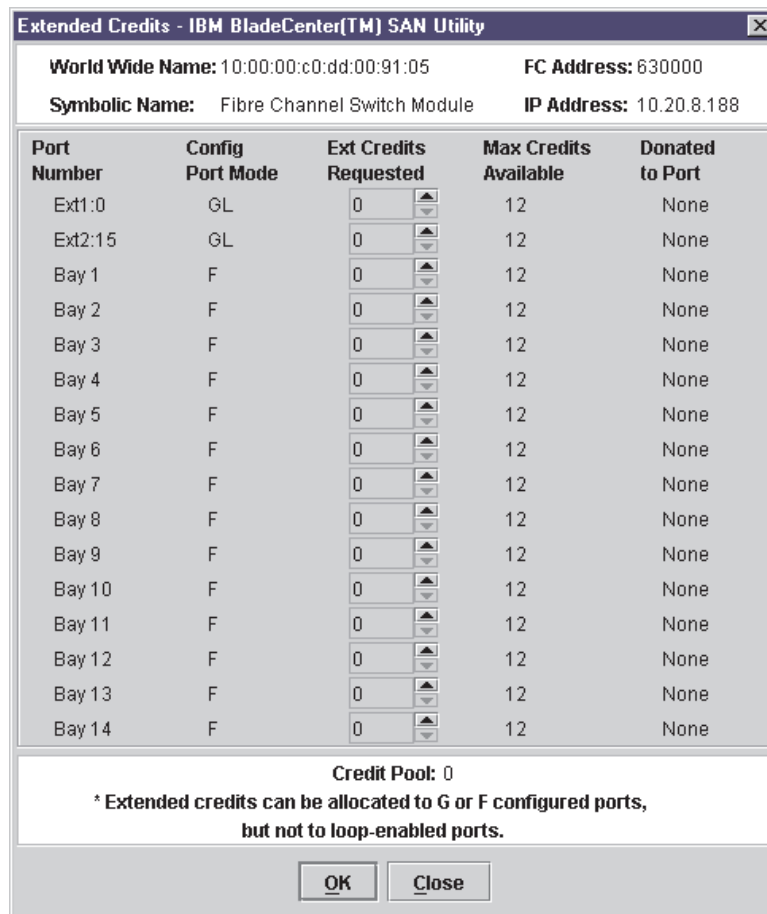

Figure 20. Extended Credits window
2. In the Faceplate window, select the recipient port. Recipient ports must be external ports configured as G_Ports or F_Ports. Click **Port → Extended Credits**. The Extended Credits window opens as shown in Figure 20 on page 117.